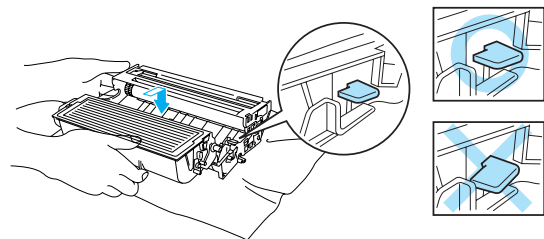

Fig. 5-12
- (6) Put the new toner cartridge firmly into the drum unit until you hear it lock into place. If you put it in properly, the lock lever will lift automatically. (Fig.5-12) Make sure you fit the toner cartridge properly or it may separate from the drum unit.